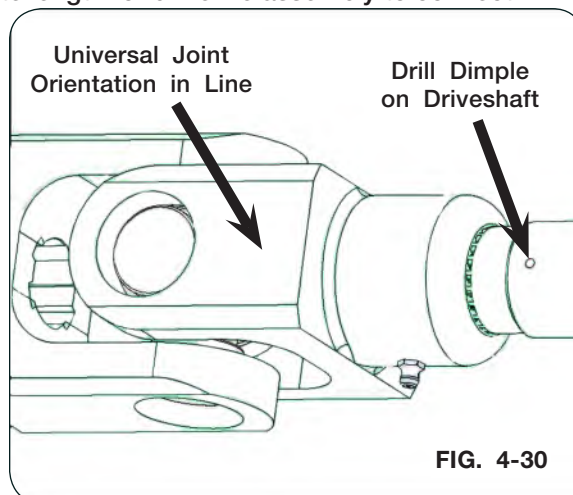

FIG. 4-30
14. For alignment of the yoke, the orientation of the universal joint at the gearbox **MUST** be in line with the driveshaft drill dimple when the driveline assembly is attached. (Fig. 4-30, 4-31, and 4-32)
15. With bearing mounting hardware completely tightened, drill a setscrew dimple in the driveshaft by going through the bearing setscrew threaded hole to dimple the driveshaft being careful to not damage threads. Drill the dimple to a depth that setscrews are flush with the bearing prior to applying thread locker and installing setscrews. (Fig. 4-30)